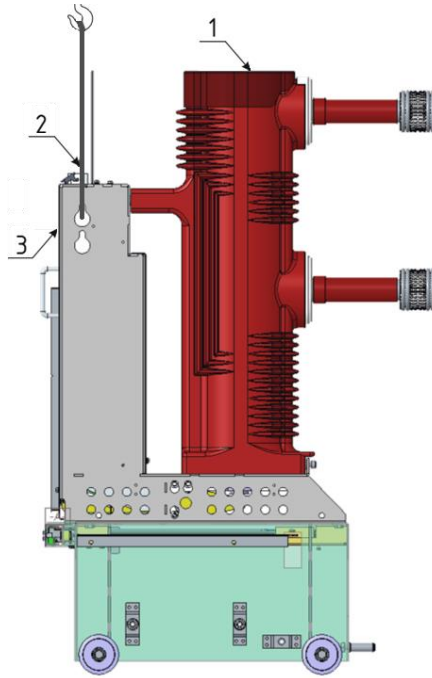

Fig.6.2. Lifting withdrawable truck circuit breaker
To lift and handle the withdrawable part (refer to Fig.6.2, item 1), proceed as follows:
- Use the crane and round slings (refer to Fig.6.2, item 2). The minimum length of slings must be 2 m.
- Secure the slings by hooks using the lifting points (refer to Fig.6.2, item 3) in the main frame.